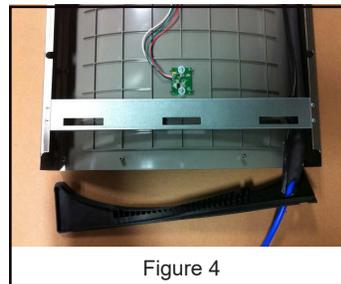

Figure 4
- Feed 3/8" water line through hole in tower/basin gasket (See Fig 4).